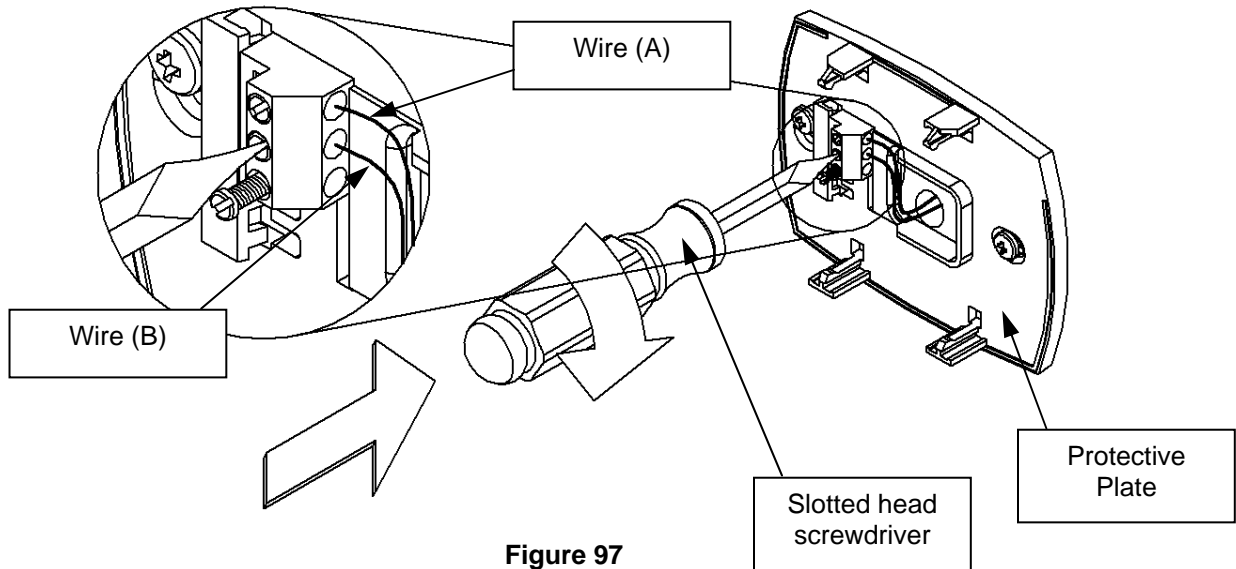

Figure 97
Step 17: Tighten the slotted screw in the middle terminal location on the Protective Plate. This is shown in Figure 97.